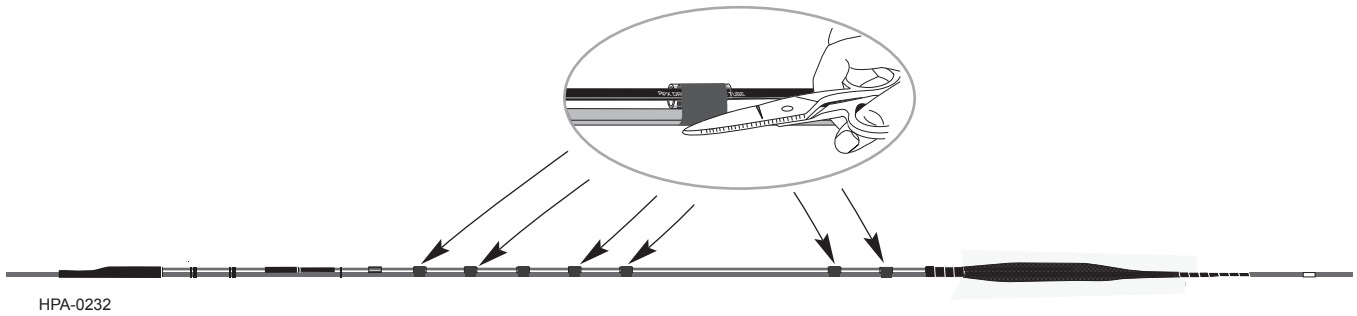

Figure 22
**Step 3:** Repeat Step 1 for the remaining tape locations on the tether and the local cable (Figure 22).